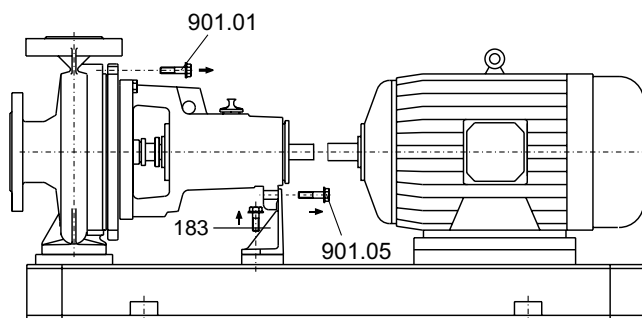

Fig. no. 10 : Dismantling the pumpset
6. Remove coupling half from the pump shaft. Ref. fig no.10
6. Remove supporting foot (183) from the baseplate and loosen bolts (901.01) on discharge cover. Refer Fig. no.10.